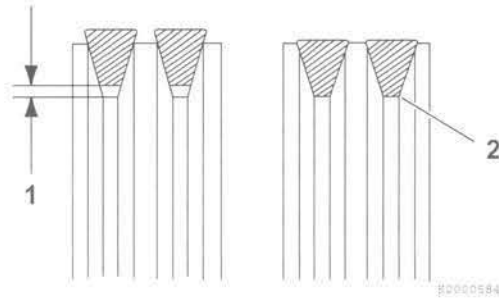

Figure 3
3. Tighten the V-belt to the proper tension. There must be clearance (1, **Figure 3**) between the V-belt and the bottom of the pulley groove. If there is no clearance (2, **Figure 3**) between the V-belt and the bottom of the pulley groove, replace the V-belt.